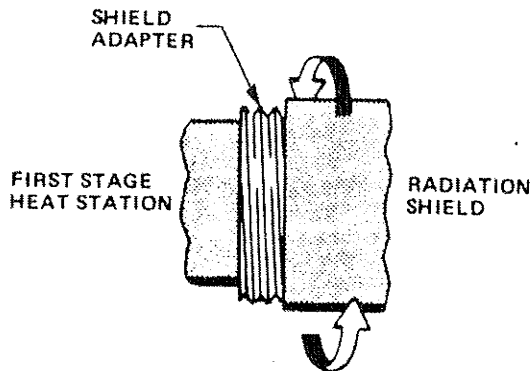

Figure 8 Install Radiation Shield
14. Screw the radiation shield onto its adapter. Align the shield openings with the sample holder. The radiation shield threads do not need to bottom on the adapter. See Figure 8.
9. Screw the radiation shield onto its adapter. Align the shield openings with the sample holder. The radiation shield threads do not need to bottom on the adapter. See Figure 8.